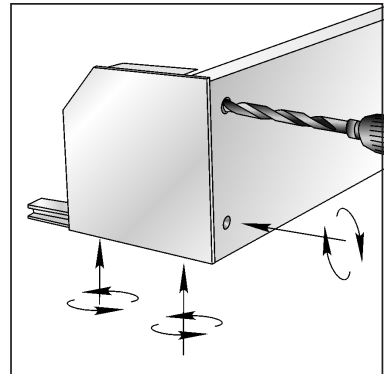

Fig. 26
- j) Mark and drill four $\varnothing 4,2+0,3$ holes for rivets in the shutter box and in the end cap at the side of the drive. Install rivets and then rivet the rear panel of the shutter box with the end cap (Fig. 26, 27).